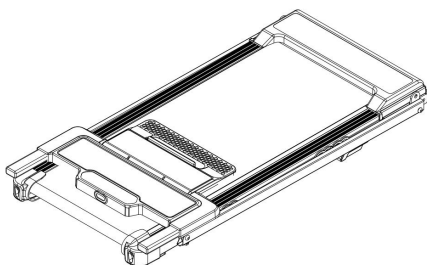

Figure 1
Step 1: As shown in (Figure 1), remove the treadmill from the carton and place it on a clear floor.